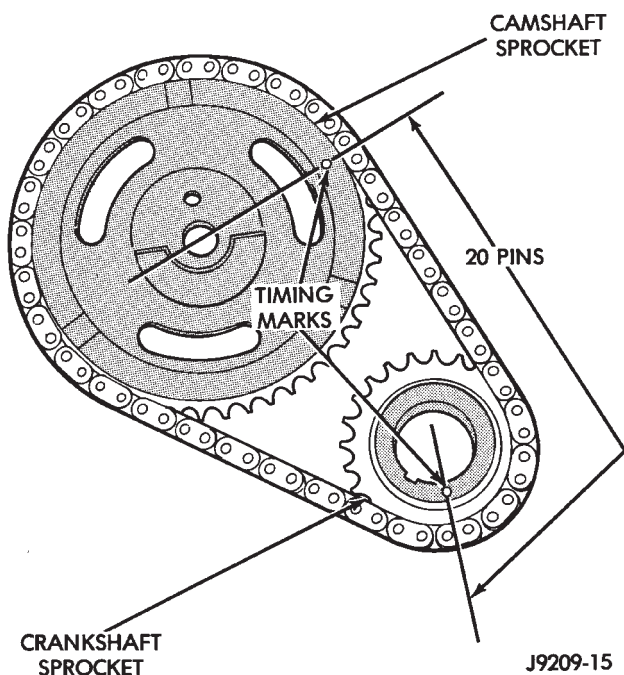

Fig. 14 Verify Crankshaft—Camshaft Installation
- (5) To verify correct installation of the timing chain, turn the crankshaft to position the camshaft sprocket timing mark as shown in Fig. 14. Count the number of chain pins between the timing marks of both sprockets. There must be 20 pins.